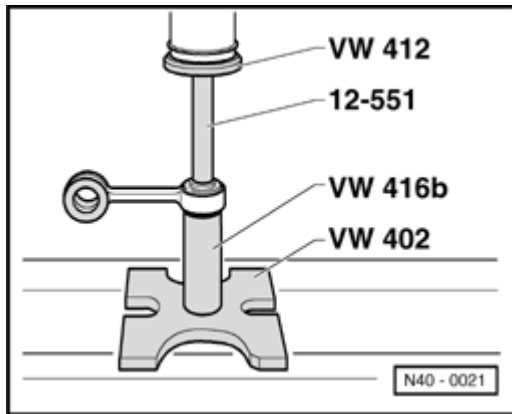

**Fig. 14 Stabilizer link rubber bushing, removing and installing from stabilizer bar**
- ◆ Removing and installing ⇒ Fig. 14